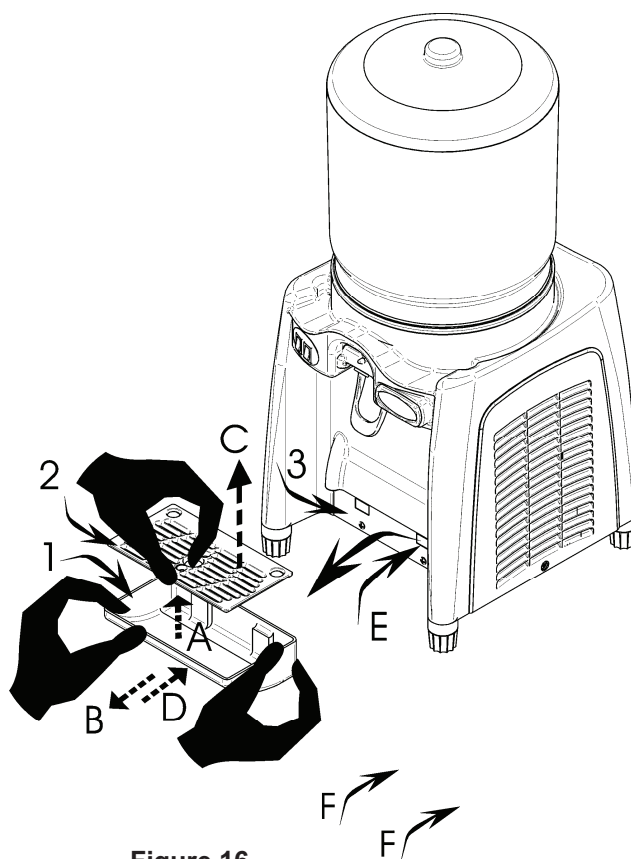

Figure 16
15°.-Complete the cleaning operation by emptying the drip tray (1) (see Fig.16), To remove, pull the tray gently up (A) and towards you (B). Take out the perforated drip rack (2) as shown by the arrow (C). Pour off the contents of the drip tray (1) and put the rack (2) back (D). Bring the tray (E) up to the front panel and slot it in place (F) over the screws (3).